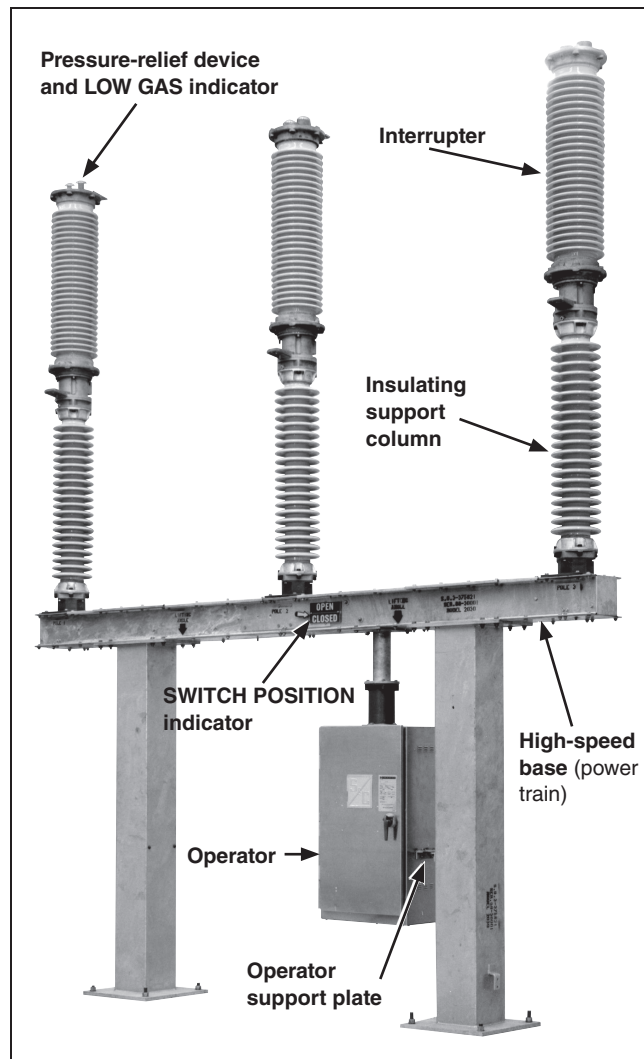
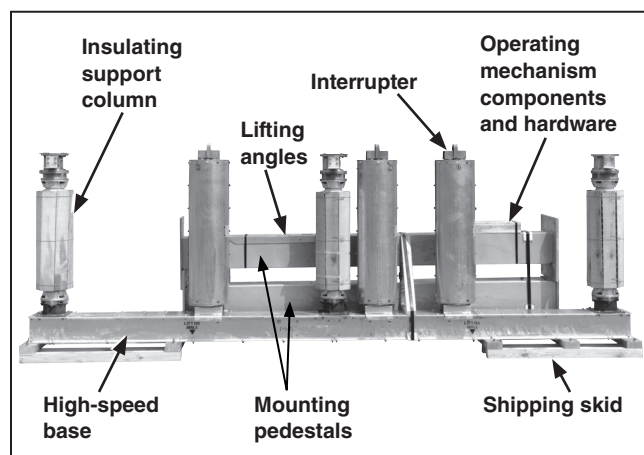
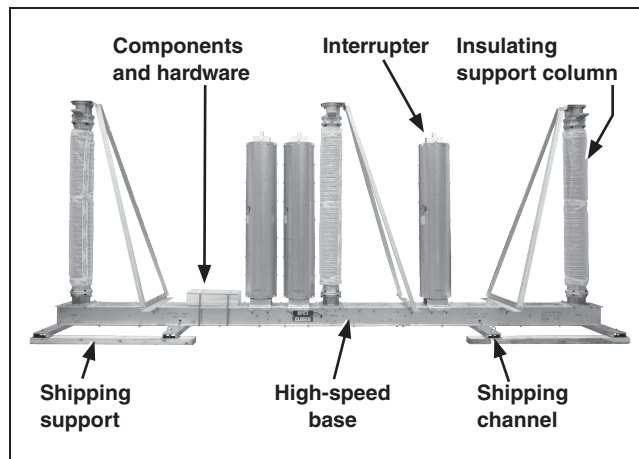

Figure 1. A Model 2030 circuit-switcher rated 138 kV.
Figure 2. Typical shipment of a Model 2030 circuit-switcher rated 69 through 138 kV. The operator is shipped on a separate skid.
Figure 3. Typical shipment of a Model 2030 circuit-switcher rated 161 through 230 kV. The operator is shipped on a separate skid.
An S&C catalog drawing can be found in a water-resistant envelope attached to the wrapper around one of the insulating support columns. Study this drawing carefully and check the bill of material to verify all parts are at hand. The Model 2030 Series 2000 Circuit-Switcher shipment should include the following items, as shown in Figure 1 on page 9, Figure 2 on page 9, and Figure 3 on page 10.
**For circuit-switchers rated 69 kV through 138 kV:** Cut the steel straps that bind the mounting pedestals to the high-speed base and the straps that bind the container of operating mechanism components and hardware and the straps that bind the pole-units using a steel strapping cutter. See Figure 2.
**For circuit-switchers rated 161 kV and 230 kV:** Cut the steel straps binding the container of miscellaneous operating mechanism components and hardware. See Figure 3 on page 10.